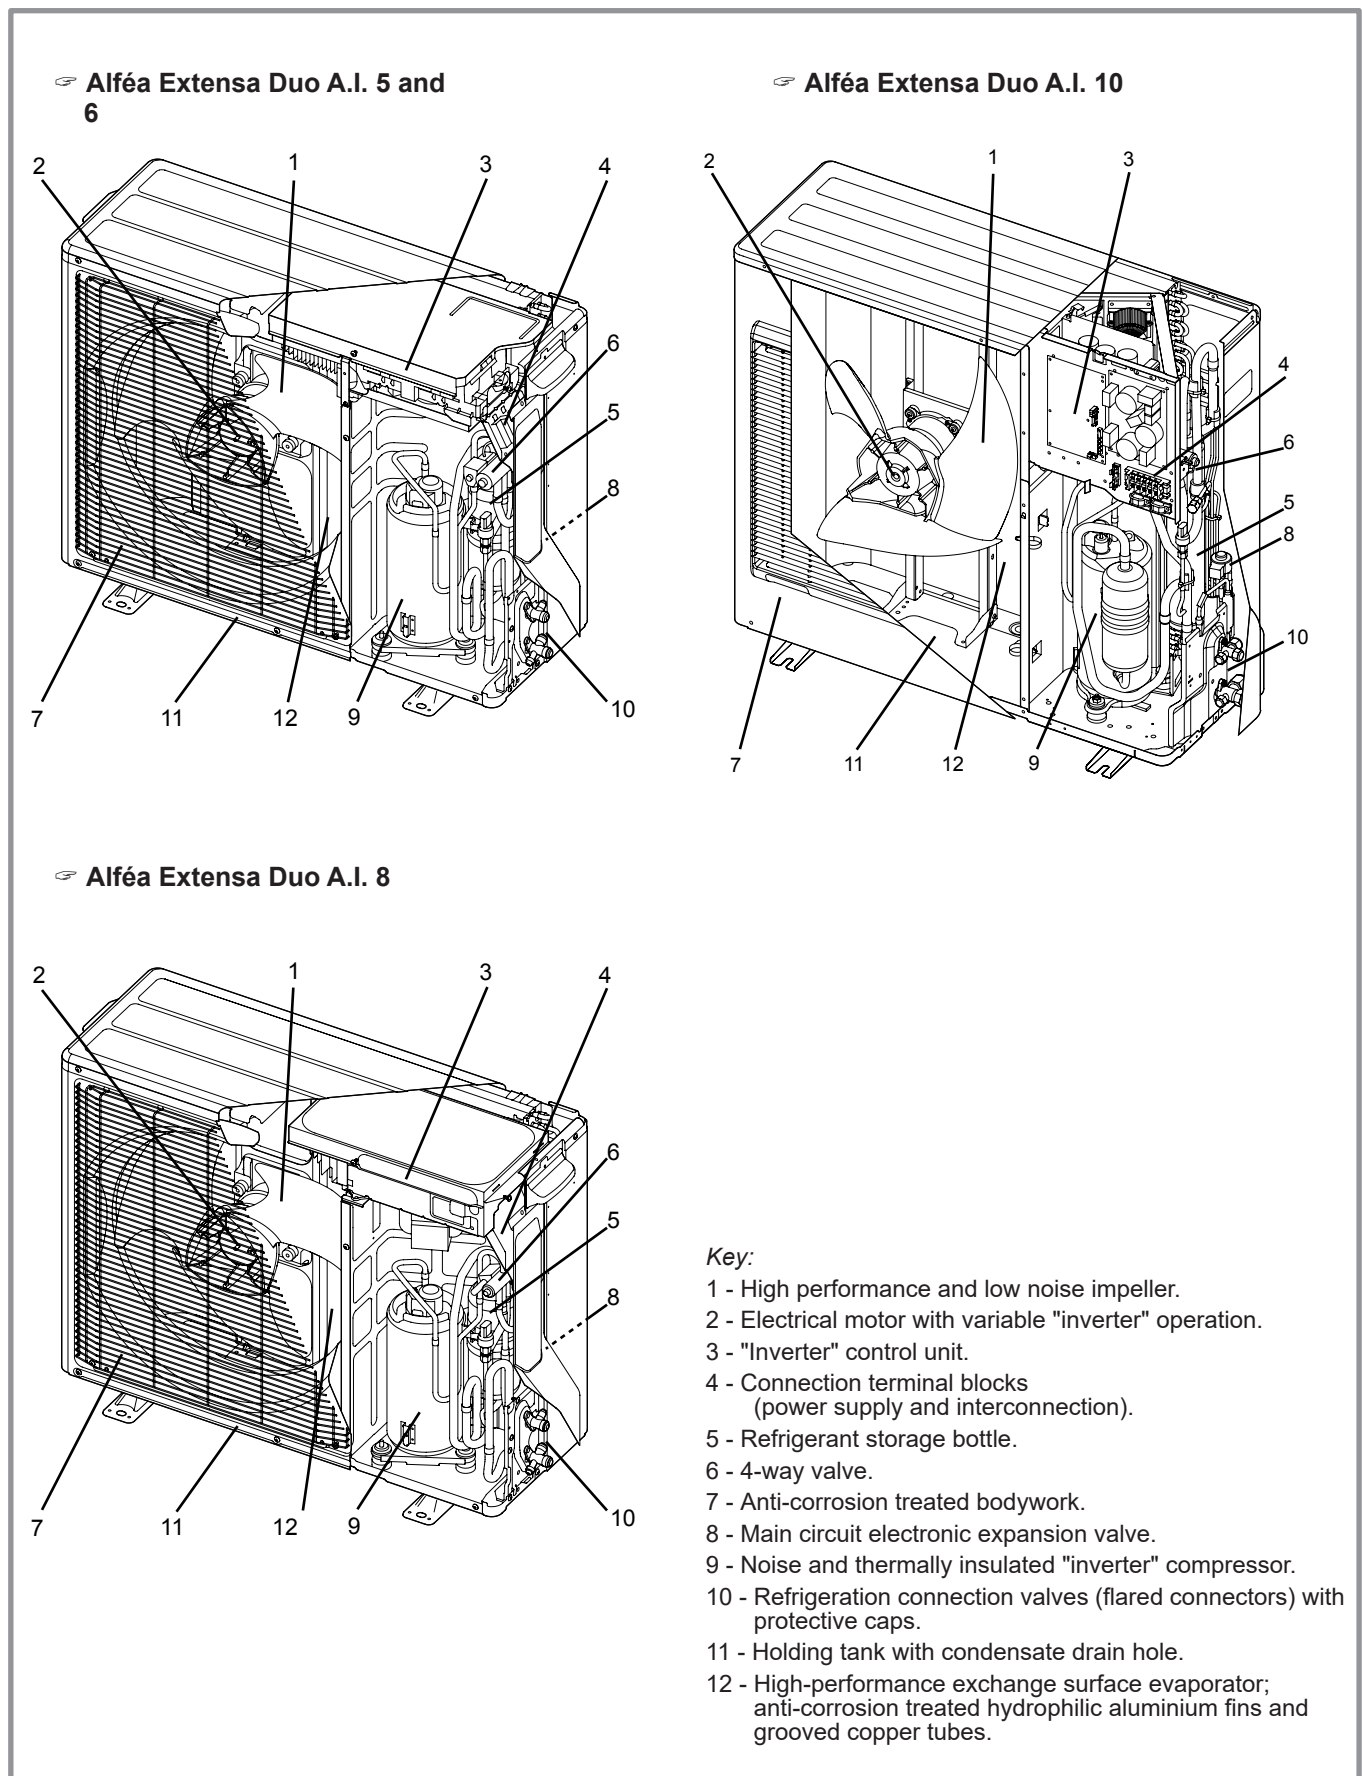

figure 8 - Outdoor unit components
- In the evaporator (ref. **12**, figure 8, page 12): The calories are taken from the outside air and transmitted to the refrigerant. Because it has a low boiling point, it changes from a liquid to a vapour, even in cold weather (down to -20°C outside temperature).
- In the compressor (ref. **9**, figure 8, page 12): The vaporised refrigerant is pressurised and takes on even more calories.
- In the expansion valve (ref. **8**, figure 8, page 12): The liquefied refrigerant is returned to a low pressure and regains its initial temperature and pressure.